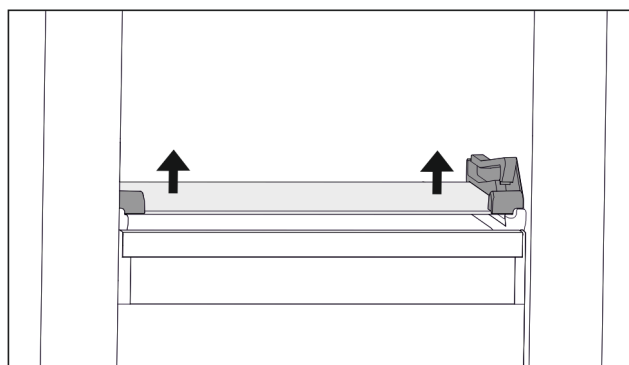

Fig. 70 Tilting drawer glass shelf
- ▶ Push glass shelf upwards from below on both sides. (see Fig. 70)